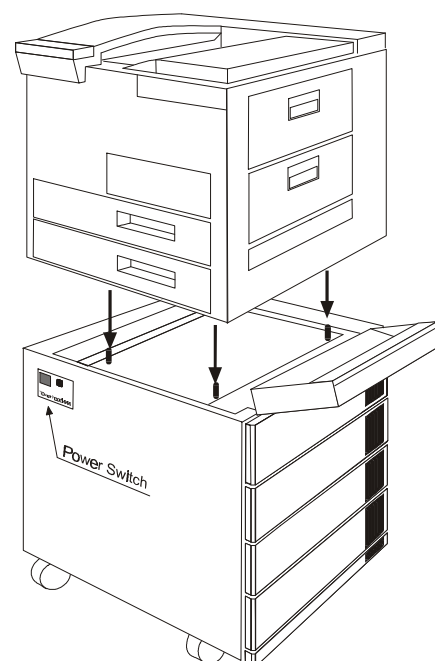

Fig. 9 Positioning the Printer and Location of the Power Switch
- Pull the feeder adapter open and carefully lift the laser printer onto TowerFeed. Place its positioning holes on the positioning pegs of the TowerFeed top (Fig. 9). Be careful to not damage the paper feeding adapter.